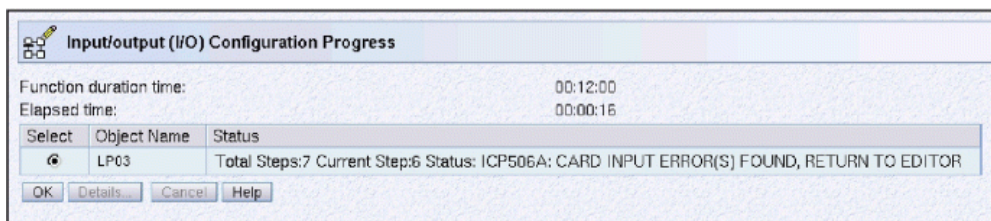

Figure 43. *Input/output (I/O) Configuration Progress - Build with errors*
- Errors (see Figure 43 on page 32)
If the build was not successful, an error message is displayed, as shown in Figure 43 on page 32, and the resultant IOCDs is *not* written to the hard disk of the Support Element.